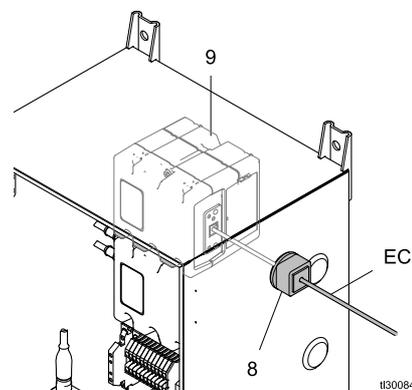

Figure 10 CGM, EC, and Cable Fitting
4. Open grommet and place FieldBus cable (EC) (Figure 10) inside, making sure there is enough length coming out to allow for routing within the box and for connection to the CGM (9).